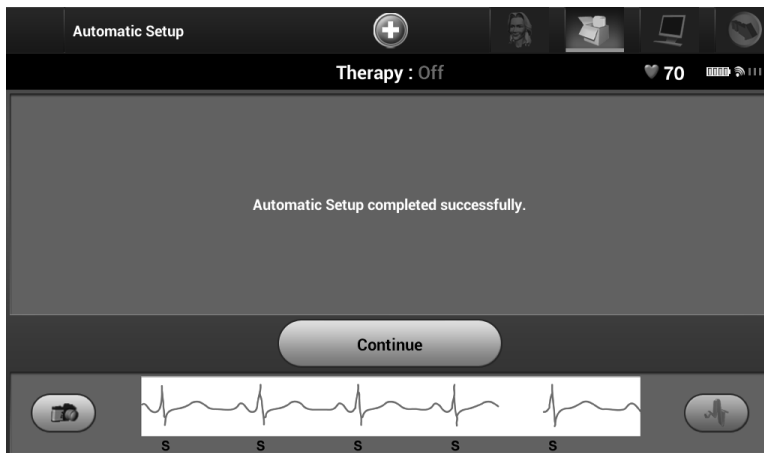

Figure 26: *Confirmation of successful Automatic Setup*
7. Select the Continue button to finish the Automatic Setup process. A confirmation screen will appear when Automatic Setup is complete (Figure 26).